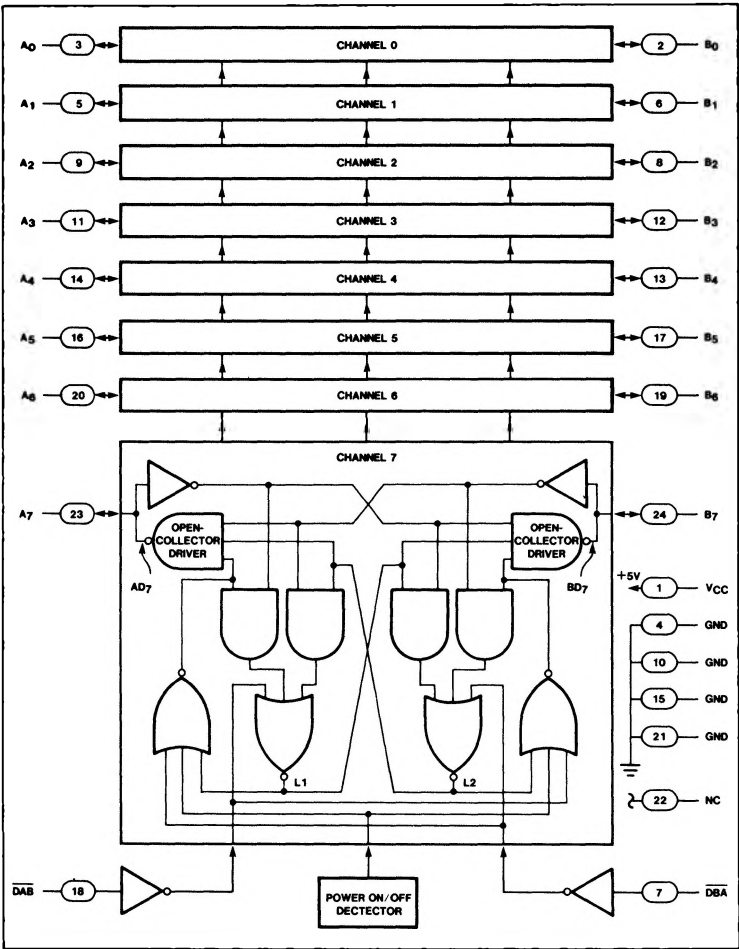

Figure 1. Logic Diagram of 8X41
The 8X41 (Figure 1) consists of eight functionally independent yet logically identical channels. Each channel consists of two bus terminals (A_i and B_i); each terminal is internally connected to an open-collector driver and a high-impedance receiver. The monitoring state of each channel is defined when both terminals (A_i and B_i) are "high"; in this state, the internal logic of the 8X41 continually examines the A and B bus signals to determine signal direction—A_i to B_i or B_i to A_i. A low signal occurring at either of the two terminals causes the open-collector driver on the opposite terminal to follow suit; hence, the signal is repeated by the 8X41. For each channel, latches L1 and L2 determine signal direction. As shown in the truth table for these latches, there is no transmission of data when both signals are low, however, this condition should never occur during normal system operation.
3. Refer to Truth Tables adjacent to Figure 1 for data control capabilities